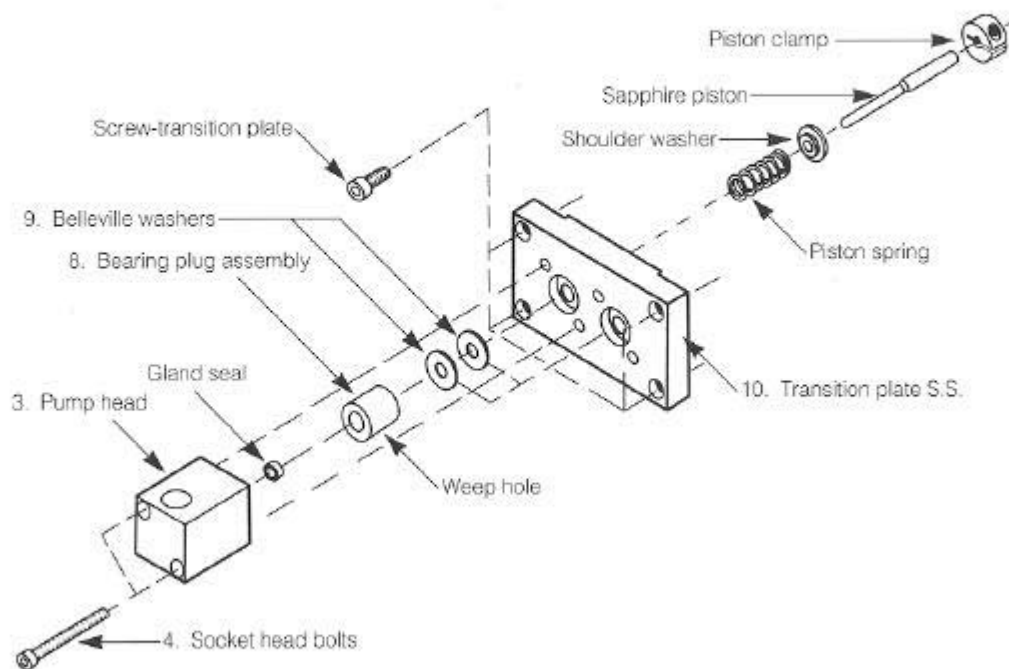

Fig. 11.2. Exploded view of piston assembly.
Before changing the pump seals, refer to Figure 11.2 and familiarize yourself with the mechanical details of the pump head.
3. Remove the two socket head bolts (Figure 11.2, item 4) which secure the pump head to the transition plate (item 10). Use the $\frac{5}{16}$ " hex wrench provided with the pump.
4. Gently remove the pump head (Figure 11.2, item 3) by pulling forward slowly until the piston is free of the high pressure seal. Pull directly out from the transition plate, since angular loads will break the piston.
5. Remove the bearing plug as shown in Figure 11.2, item 8, and set it aside. The belleville washers (item 9) are between the bearing plug and the face plate. Remove them and note the direction of the belleville washers for proper orientation on re-assembly.